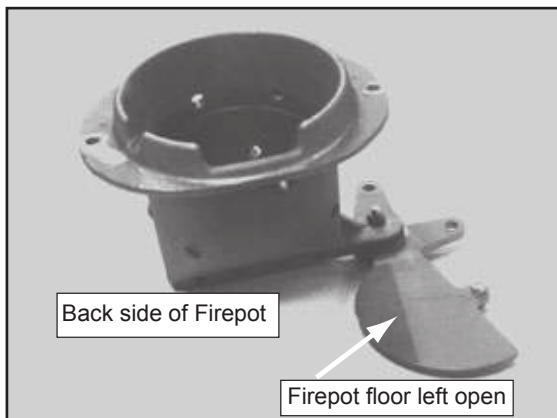

Figure 13.1
- c. The firepot floor plate must be fully closed when finished. **Figure 13.1.**